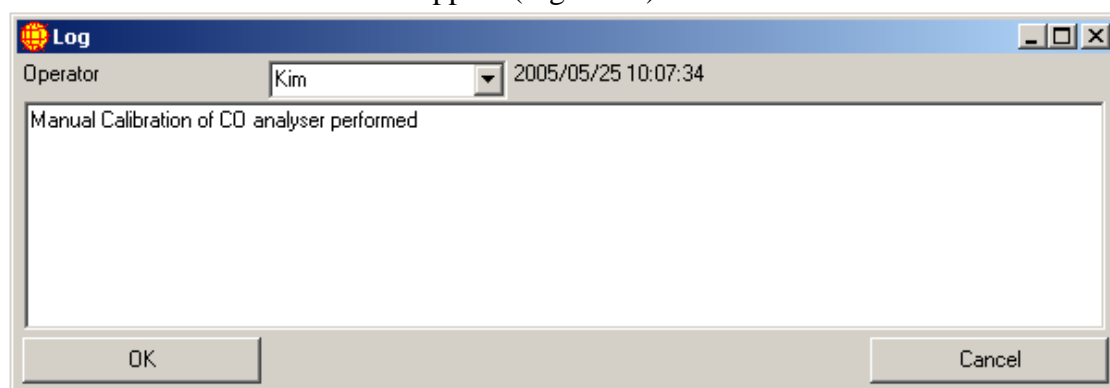

Figure 36 Log entry window
2. On the main Log screen click the Add new log entry, a new window will appear (Figure 36).